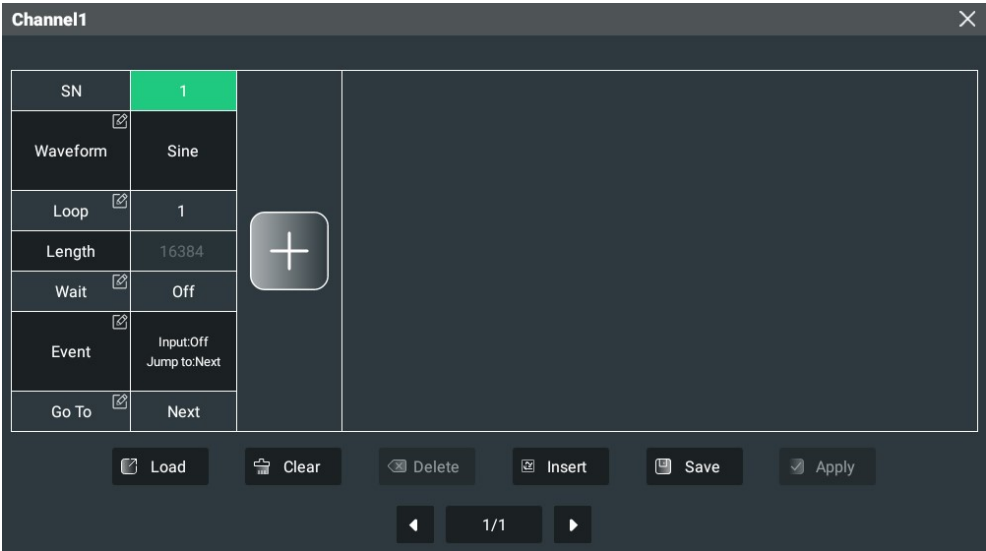

Figure 9.4 Sequence Editing Table
1. In the interface as shown in *Figure 9.4*, click or tap **Save** and the "Store" menu is displayed.
1. In the interface as shown in *Figure 9.4*, click or tap **Load** and the "Store" menu is displayed.